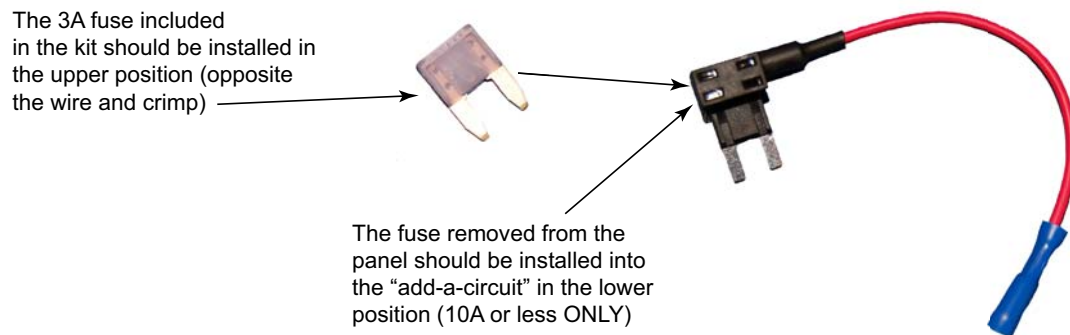

Figure 10: 4 Add-a-Circuit Device – Fuse Insertion
- 5) Remove the fuse and install the "add-a-circuit" into the "switched" 12V fuse position found in step 4. The fuse removed from the panel should be installed into the "add-a-circuit" in the lower position (10A or less ONLY), and the 3A fuse included in the kit should be installed in the upper position (opposite the wire and crimp) as shown in **Figure 10**.